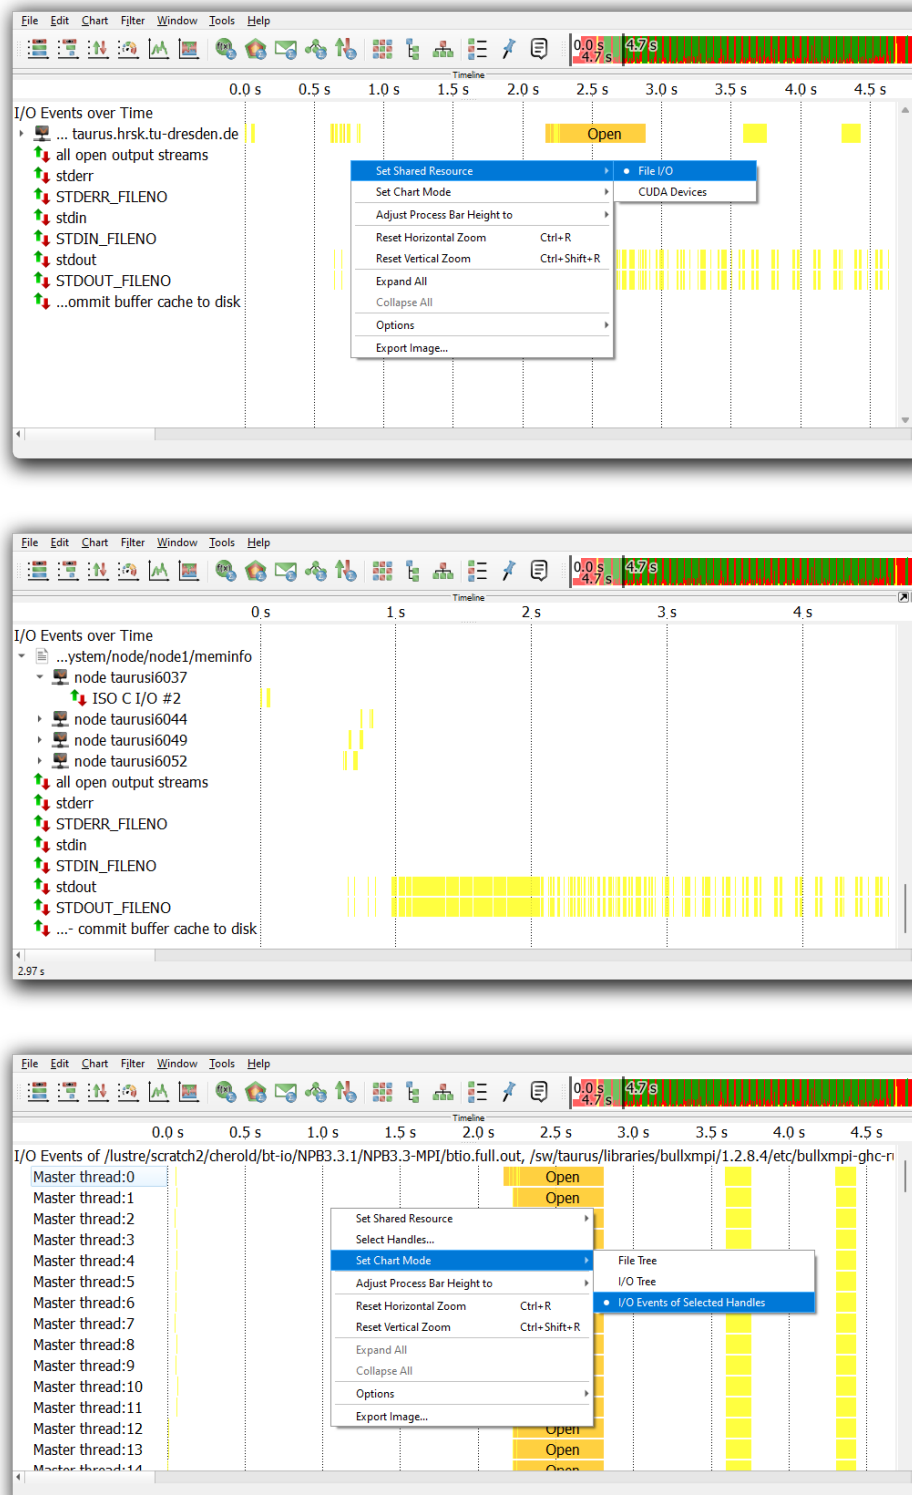
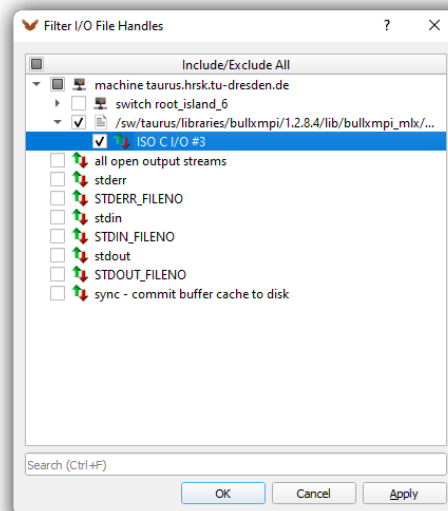

Figure 4.20: The three different chart modes for the *File I/O* shared resource. From top to bottom: I/O Tree, File Tree, and I/O Events of Selected Handles.
Figure 4.21: Selection dialog shown when clicking the *I/O Events of Selected Handles* entry in the *Set Chart Mode* context menu item.
The *Shared Resource Timeline*, see Figure 4.20, groups timeline information by a shared resource. The shared resource to be shown can be chosen in the context menu item *Set Shared Resource*, top image in Figure 4.20.
- **File I/O** In this case the shared resource is files. They can be organized using a hierarchical system tree or a flat file list view. The third mode exclusively shows I/O events belonging to user-selected I/O handles. In this mode the events are grouped by their initiating processes, bottom of Figure 4.20.
For a more detailed analysis it is possible to focus the chart on I/O activities accessing individual file handles. Therefore, select the file handles of interest by clicking their labels. Hold the Ctrl key while clicking to add or remove labels to/from the selection. Clicking one label and then pressing Shift while clicking on another label will select the whole range between both labels. After selecting all labels of interest, choose the *I/O Events of ...* entry from the *Set Chart Mode* submenu in the context menu, see the bottom image in Figure 4.20. When no labels are selected, the menu entry can still be clicked and will show a conventional dialog with check boxes for selecting handles, Figure 4.21. After the selection is complete, the chart will exclusively show related I/O events organized by their invoking processes. This allows a detailed analysis of distributed access patterns to individual files.